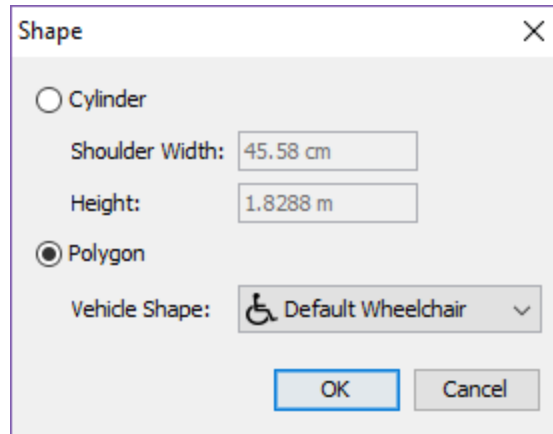

Figure 114. The Shape Dialog where a user may select a vehicle shape for a client
- Choose a **Vehicle Shape** for the client (see Section 5.1.9 and Figure 114) by editing the **Shape** parameter on the occupant properties panel. *All clients must have a vehicle shape* (see Section 5.2). Either choose a default shape or define a custom shape with user-defined positions for assistants.